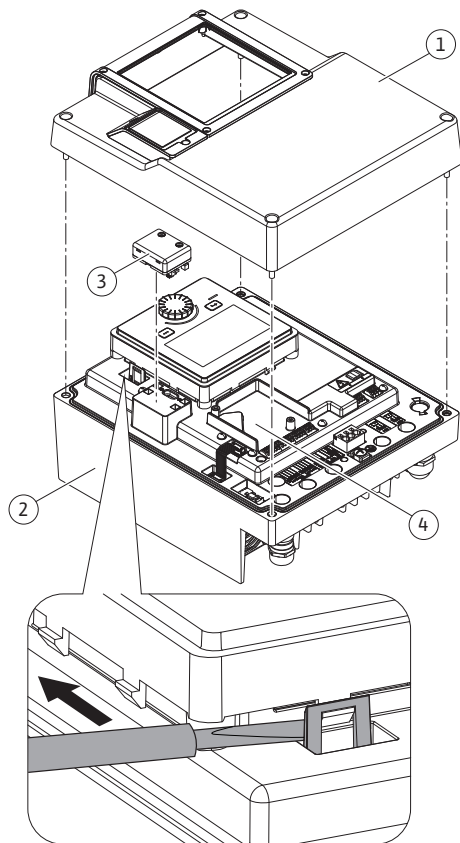
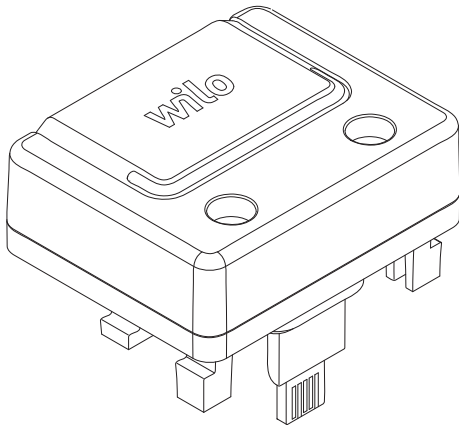

Fig. 30: Electronic module
Fig. 31: Wilo-Smart Connect module BT
1. Carefully open the snap-in hooks (Fig. 30) with a tool (e.g. screwdriver).
The Bluetooth interface Wilo-Smart Connect module BT (Fig. 30, Item 3, and Fig. 31) is used to connect to mobile end devices such as smartphones and tablets. The Wilo-Smart Connect feature is in the Wilo-Assistant app. Using the Wilo-Smart Connect feature, you can operate and adjust the pump and read out pump data. For settings, see “Commissioning” [► 54] section.
1. Loosen the four screws of the upper part of the electronic module (Fig. 30, Item 1; Fig. 1, Item 2).
3. Insert the Wilo-Smart Connect module BT into the designated interface Wilo-Connectivity Interface. See Fig. 30, Item 3.
CIF modules (accessories) are used for communication between pumps and building management systems. CIF modules are attached in the electronic module (Fig. 30, Item 4).